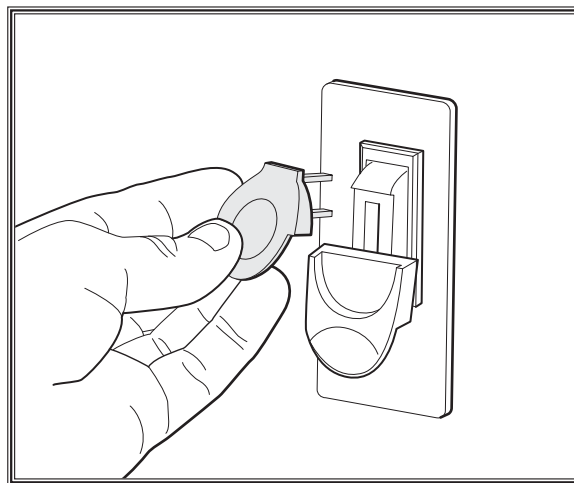

Figure 8. Removing switch key from paddle switch.
4. Remove switch disabling key (see **Figure 8**).